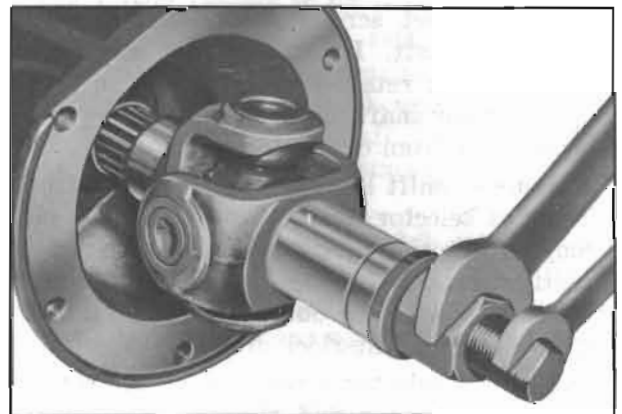

Figure 4-22—Installing Universal Joint with Replacer
(3) *Universal Joint.* Use Replacer J 855 to install universal joint on main shaft. See figure 4-22.